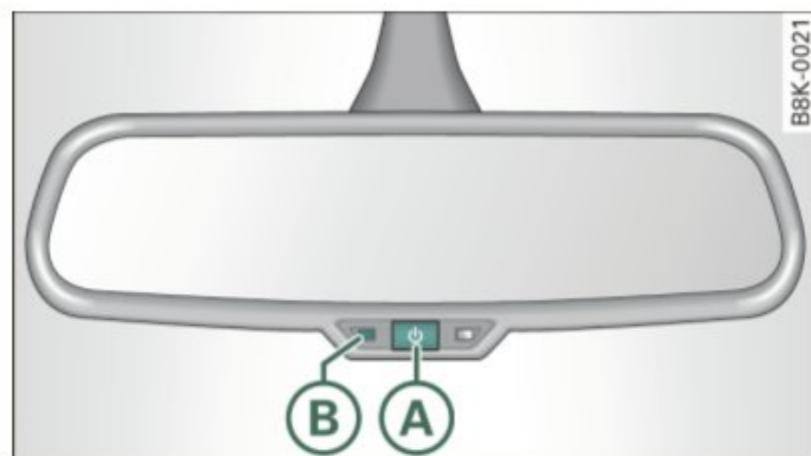

Fig. 65 Inside rear view mirror
- Press button **A** ⇒ fig. 65 *briefly*, - the indicator light **B** goes out.